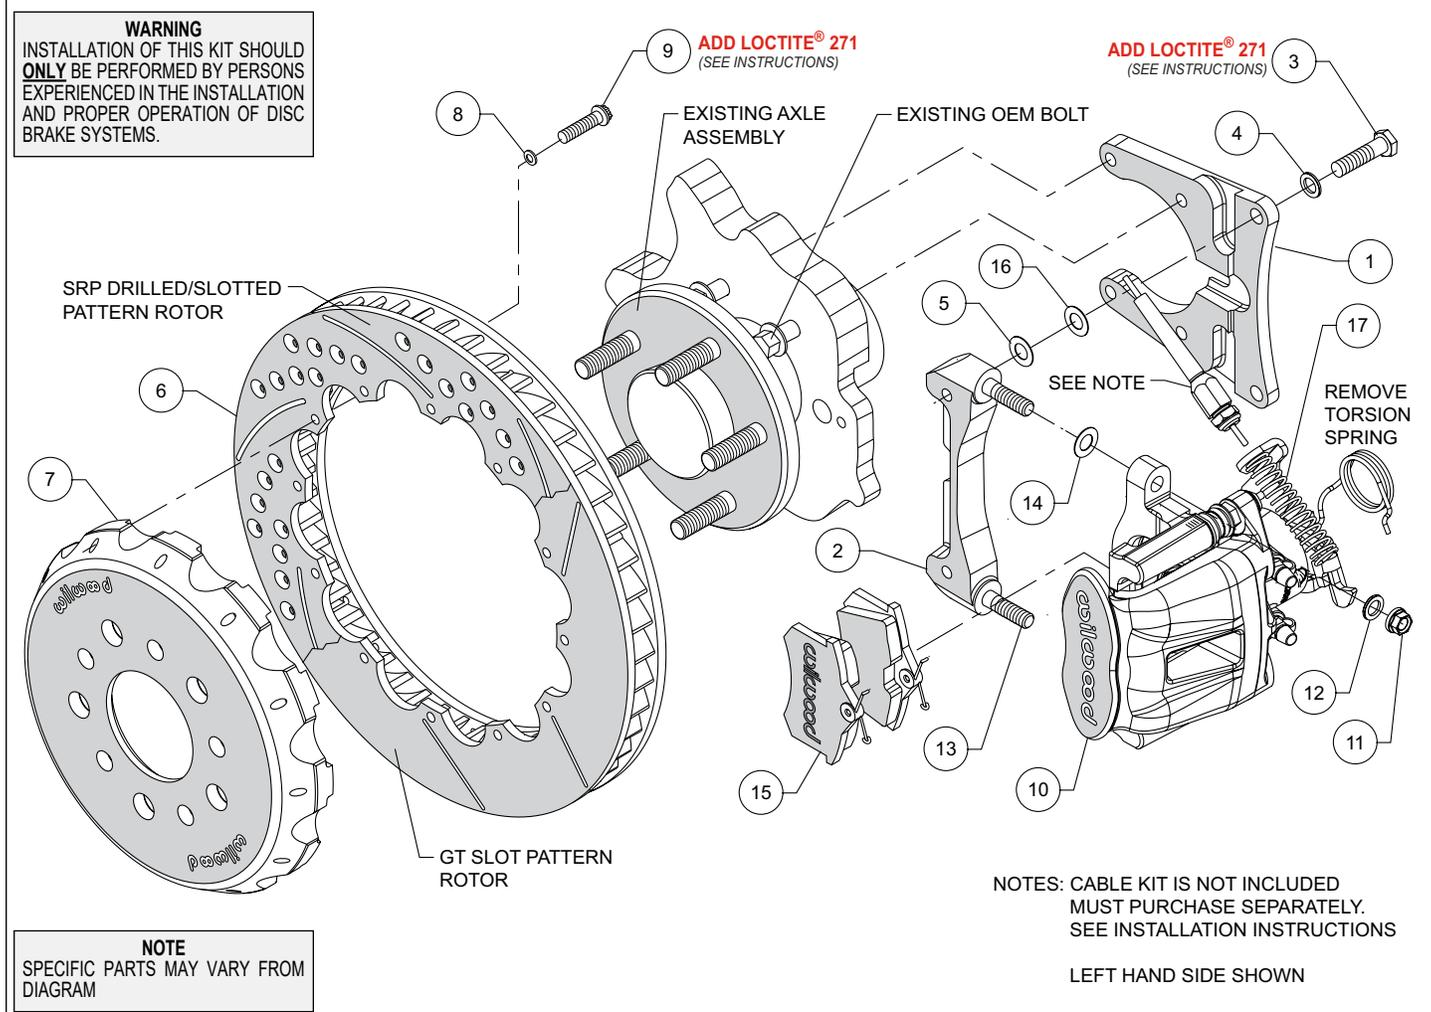

Figure 1. Typical Installation Configuration
- Once all clearances have been checked, remove the wheel, caliper and rotor from the axle flange. Secure the caliper mounting bracket (2) to the axle bracket (1) while applying red *Loctite*[®] 271 on the bolt threads (3) and torque bolts (3) to 30 ft-lb. Then secure the axle bracket assembly (1) to the housing flange using red *Loctite*[®] 271 on the bolt threads. Torque the bolts to manufacturer's specifications. Reinstall the rotor and again use several lug nuts to hold it in place. Reinstall the caliper, torque the caliper nuts (11) to 30 ft-lbs.
- Install new parking brake cable (not included with kit). Wilwood offers a custom parking brake cable kit, P/N 330-10791 for this kit which can be ordered separately from your local Wilwood dealer or by calling Wilwood customer service at (805) 388-1188. **NOTE:** *Original equipment cable will not adapt to Wilwood calipers.*
- Install compression spring (17) between the two lever arms of the caliper (10) with cable feed through as shown in figure 1. Caution should be used when handling springs.